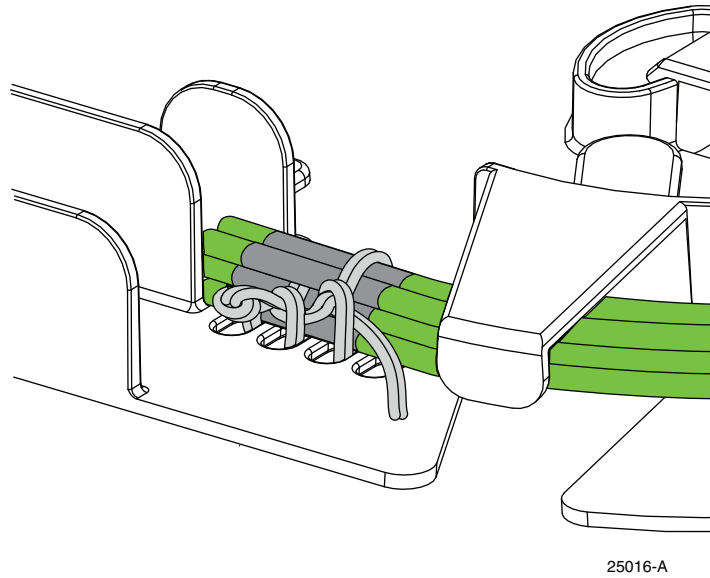

Figure 23. Tying off the Third Layer
11. Repeat the same basic action to place the third lacing stack layer (if any) onto the fiber breakout point and secure it with a third half-hitch knot using the third pair of holes in the fiber breakout point, as shown in Figure 23.